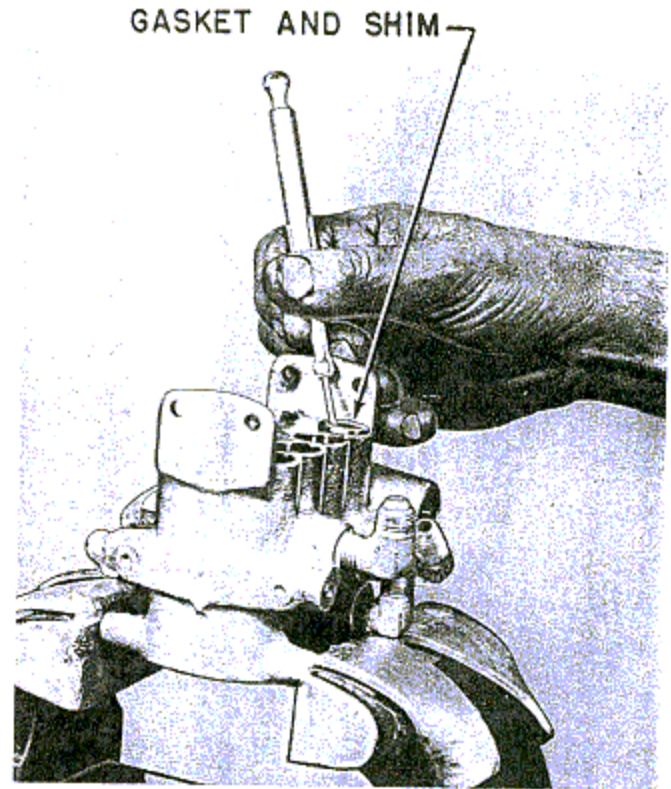

Figure 232—Removing Gaskets and Shims from Valve Body
5. Remove the gaskets and shims from the valve and place them with the correct followers. (See figure 232.)